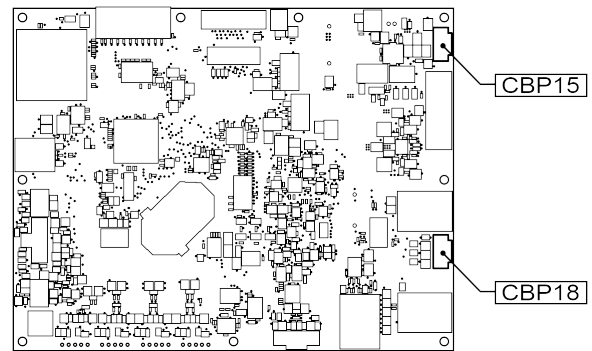

Figure 11
10. Using the harness included with the printer, connect to the control board as shown in Figure 11. The wires are marked with their respective connector labels.